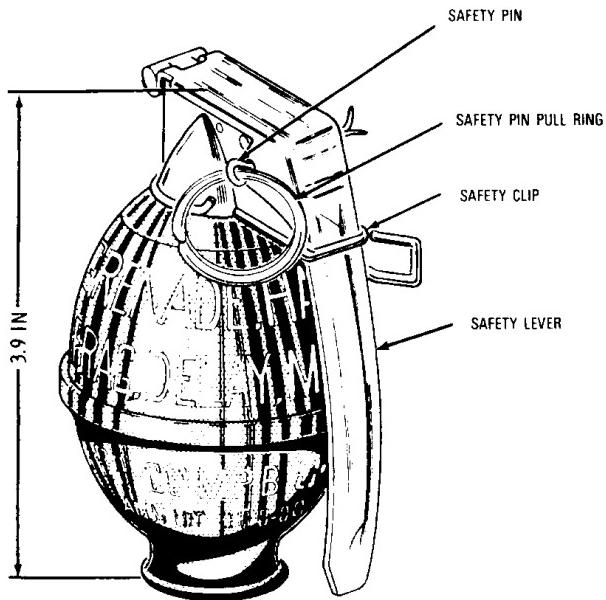

Figure 2-3     Grenade, Hand, Fragmentation, Delay, M61
1. When the safety clip and pin are removed and the safety lever released the striker spring forces the striker to rotate on its axis and to strike the primer. See Figures 2-3 and 2-4.